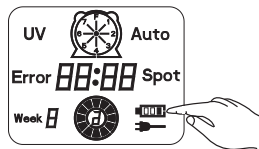
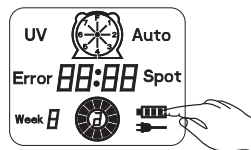

Figure 4
Figure 5
- When the battery is low the first bar on the charging icon will flicker. The second and third bar will flicker when the vacuum is charging. When charging is completed it will stop flickering (Refer Fig 4 and Fig 5).